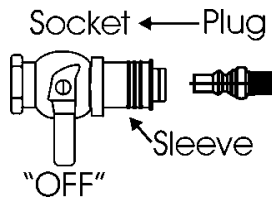

Fig. 5-4
- Place the handle in the “OFF” position and push back the sleeve. Valve handle must be in the “OFF” position to make the connection. (Fig. 5-4)
- Insert the plug and release the sleeve. (Fig. 5-4)